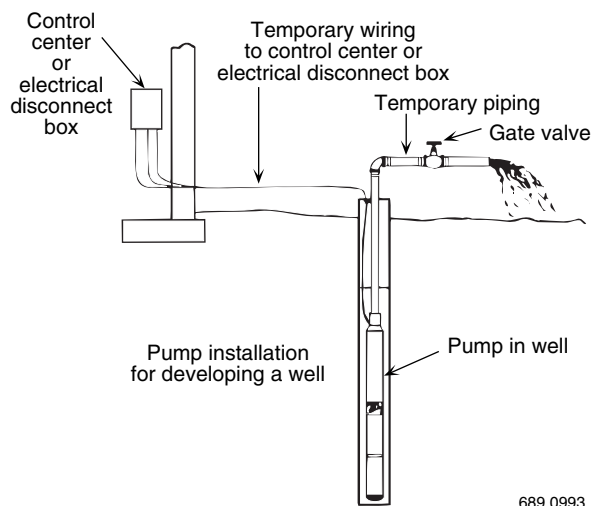

Figure 10 – Temporary Connections while cleaning well for start-up.
1. Connect a pipe elbow, a short length of pipe and a gate valve to pump discharge at well head (see Fig. 10).
5. Set gate valve on discharge 1/3 open; start pump (see Fig. 10).